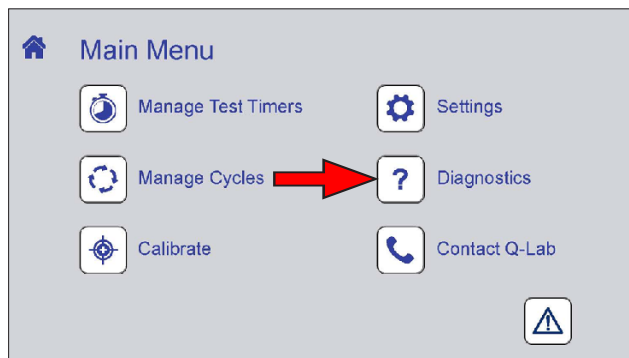
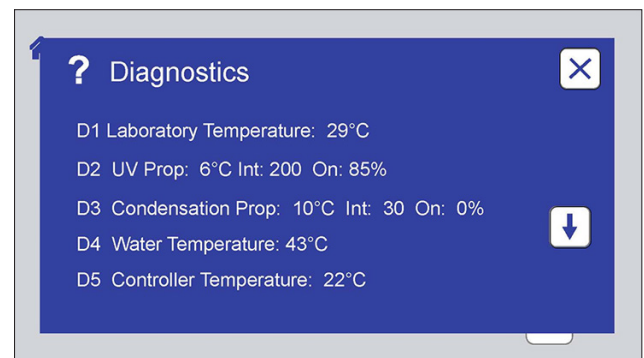

Figure 11.8a: Touch the Diagnostics icon on the Main Menu screen to display diagnostic information.
Figure 11.8b: The Diagnostics screen displays current machine operating conditions.
- Diagnostics are a list of tester current operating conditions (Figure 11.8b).
- On the Main Menu screen, touch the Diagnostics icon (Figure 11.8a) to display the Diagnostics screen (Figure 11.8b).